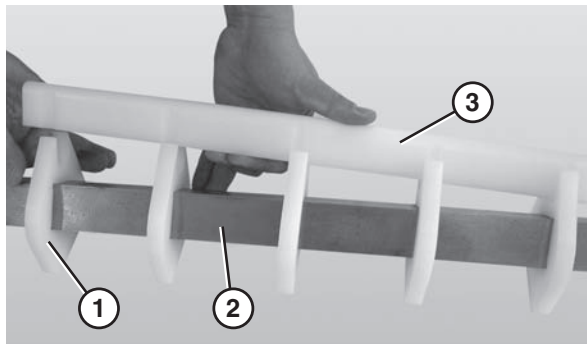

Figure 72
1. Slide the nose bar pucks (Figure 72, item 1) onto the nose bar drive post (Figure 72, item 2).
2. Attach the nose bar wear strip (Figure 72, item 3).